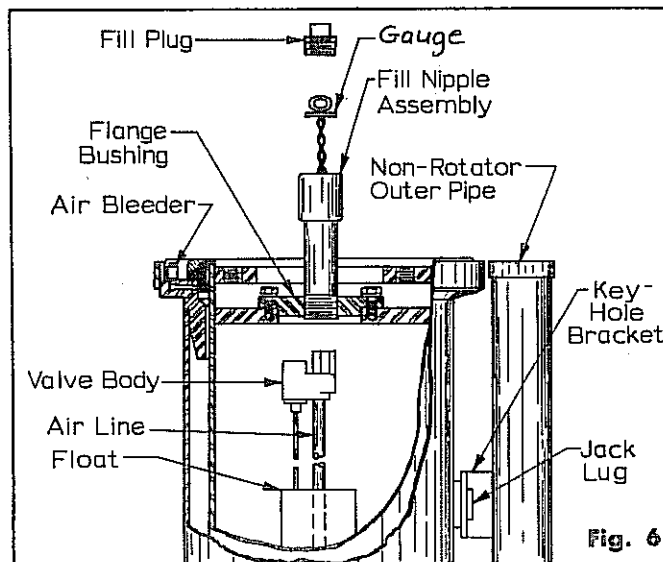

Fig. 6
13. Open air bleeder in jack flange three full turns. See Fig. 6.
15. For "A" series: Remove shipping nipple and plunger cover. Discard shipping nipple. Install fill nipple assembly (from parts box). Fill with oil to gage level. Plug fill coupling, Fig. 6. Slowly open air valve.
20. "A" series: This device is factory installed. See Fig. 6.